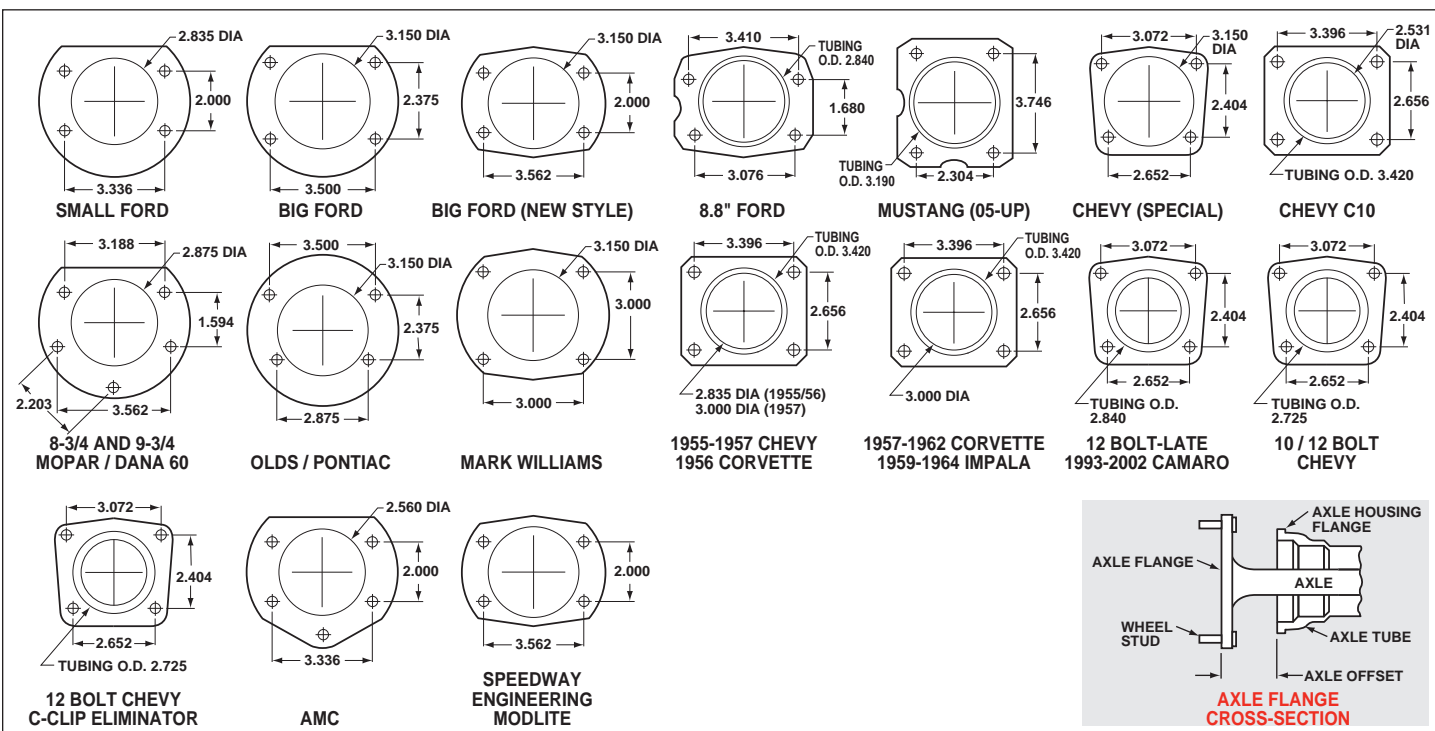

Figure 6. Rear Housing Flange Chart and Axle Flange / Offset Cross-Section
• Make sure this is the correct kit to fit the exact make and model year of your vehicle. This kit is designed for direct bolt-on installation to 1959-1964 Chevrolet Impala / 1957-1962 Chevrolet Corvette axle housing flange. Reference Figure 6.
- Dimension from wheel side of axle flange to wheel side of axle housing flange (see Figure 6, lower right hand corner). This dimension is critical to ensure proper alignment of the rotor to the caliper, and should match offset given in the kit description.